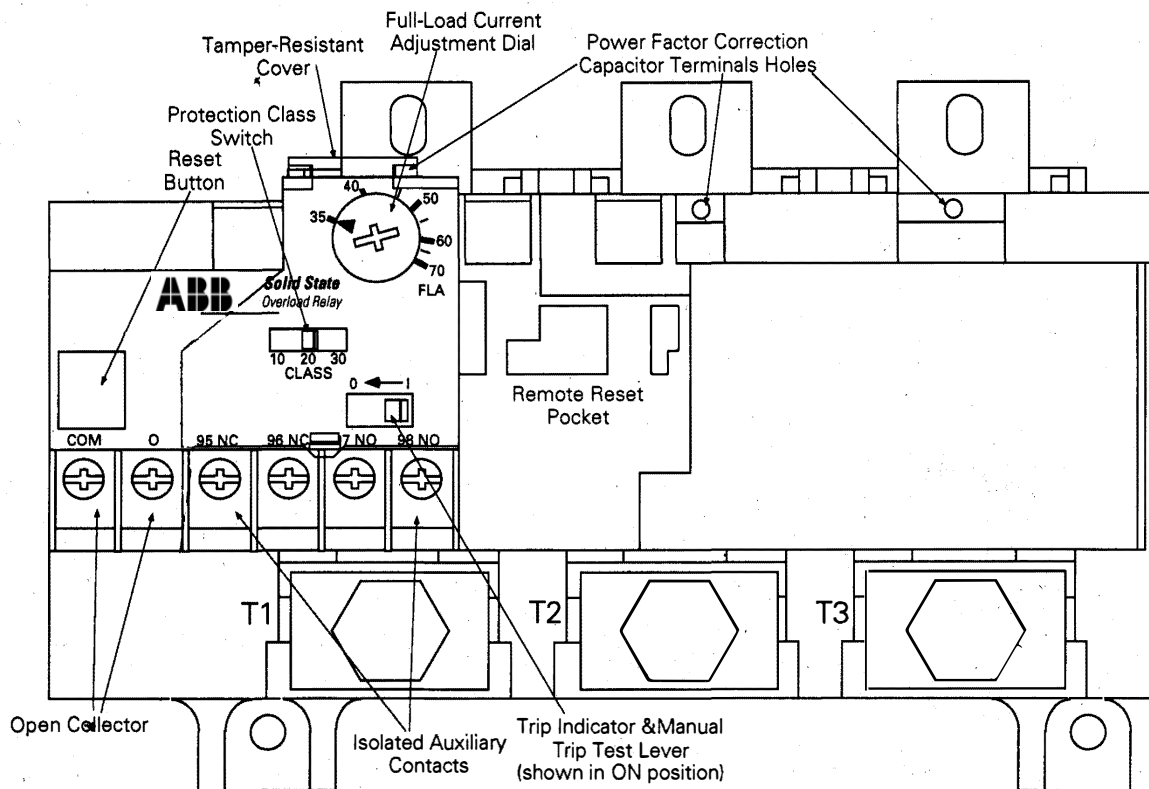

Figure 2. Top face of Solid State Overload Relay, NEMA Size 3 & 4, with controls and features indicated.
8. Connect the control and power wiring to the terminals on the load side of the Solid State Overload Relay, shown in Figure 2.
11. Fully depress the blue reset button on the Solid State Overload Relay to insure that it is in the reset position. The yellow trip flag will be at its right position, as illustrated in Figure 2.
The following adjustments to the Solid State Overload Relay are illustrated in Figure 2. The adjustments should be performed in the following order.